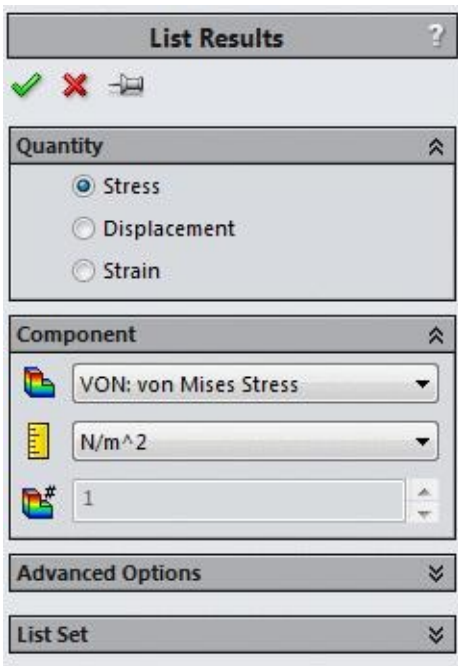

Figure-89. List Results PropertyManager
- Click on the **List Stress, Displacement and Strain** tool from the **Results Advisor** drop-down. The **List Results PropertyManager** will be displayed as shown in Figure-89.